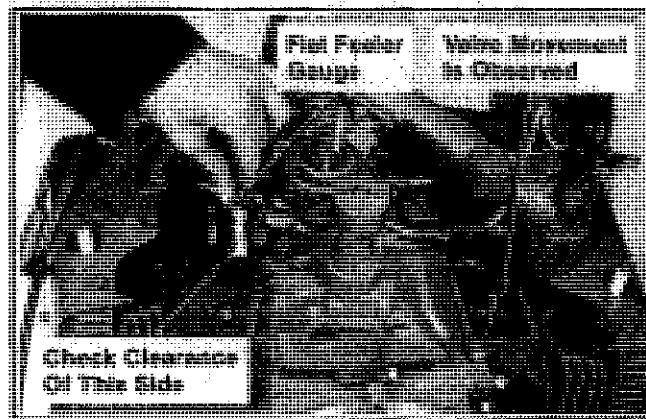

Figure 3-11. Measuring Valve-To-Tappet Clearance.
Every 500 operating hours, remove breather/valve covers and check valve-to-tappet clearance with a flat feeler gauge. Refer to Figure 3-11. The engine must be cold when checking this clearance.
1. Rotate the flywheel and look into the valve boxes. The valves and tappets will move in only one of the boxes. Measure the valve-to-tappet clearance for the cylinder in which **no movement** was observed—use a flat feeler gauge. Refer to Figure 3-11.